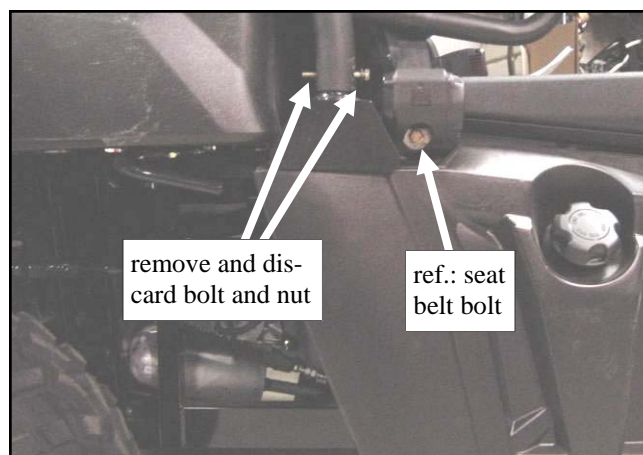

Fig. 6.1 (view from passenger's side)
6.1 Per fig. 6.1, remove and discard the original equipment bolt and nut shown at the bottom of the rear R.O.P.S. frame tubing behind the seat belt. New, longer hardware is provided.